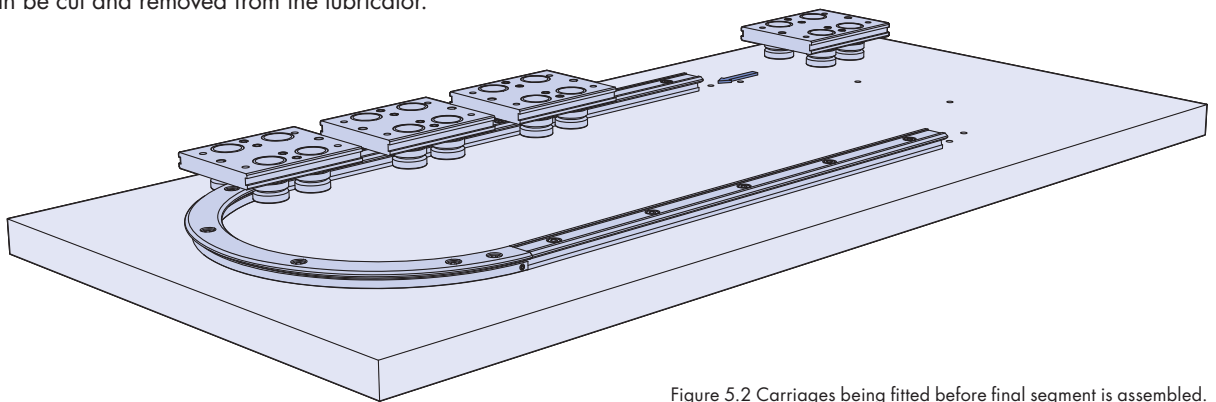

Figure 5.2 Carriages being fitted before final segment is assembled.
5.2 To assemble the carriage plates, there are two different methods that can be used. The first is as shown in figure 5.2, the carriages will be supplied fully adjusted and can be pushed onto the slide before the final ring segment is put in place. If lubricators are fitted to the carriage plate, the felt will need to be pushed into the lubricator body to enable the carriages to be assembled onto the track. A small elastic band can be used to hold the felts in place whilst the carriage plates are pushed onto the slide. After this is complete the elastic band can be cut and removed from the lubricator.